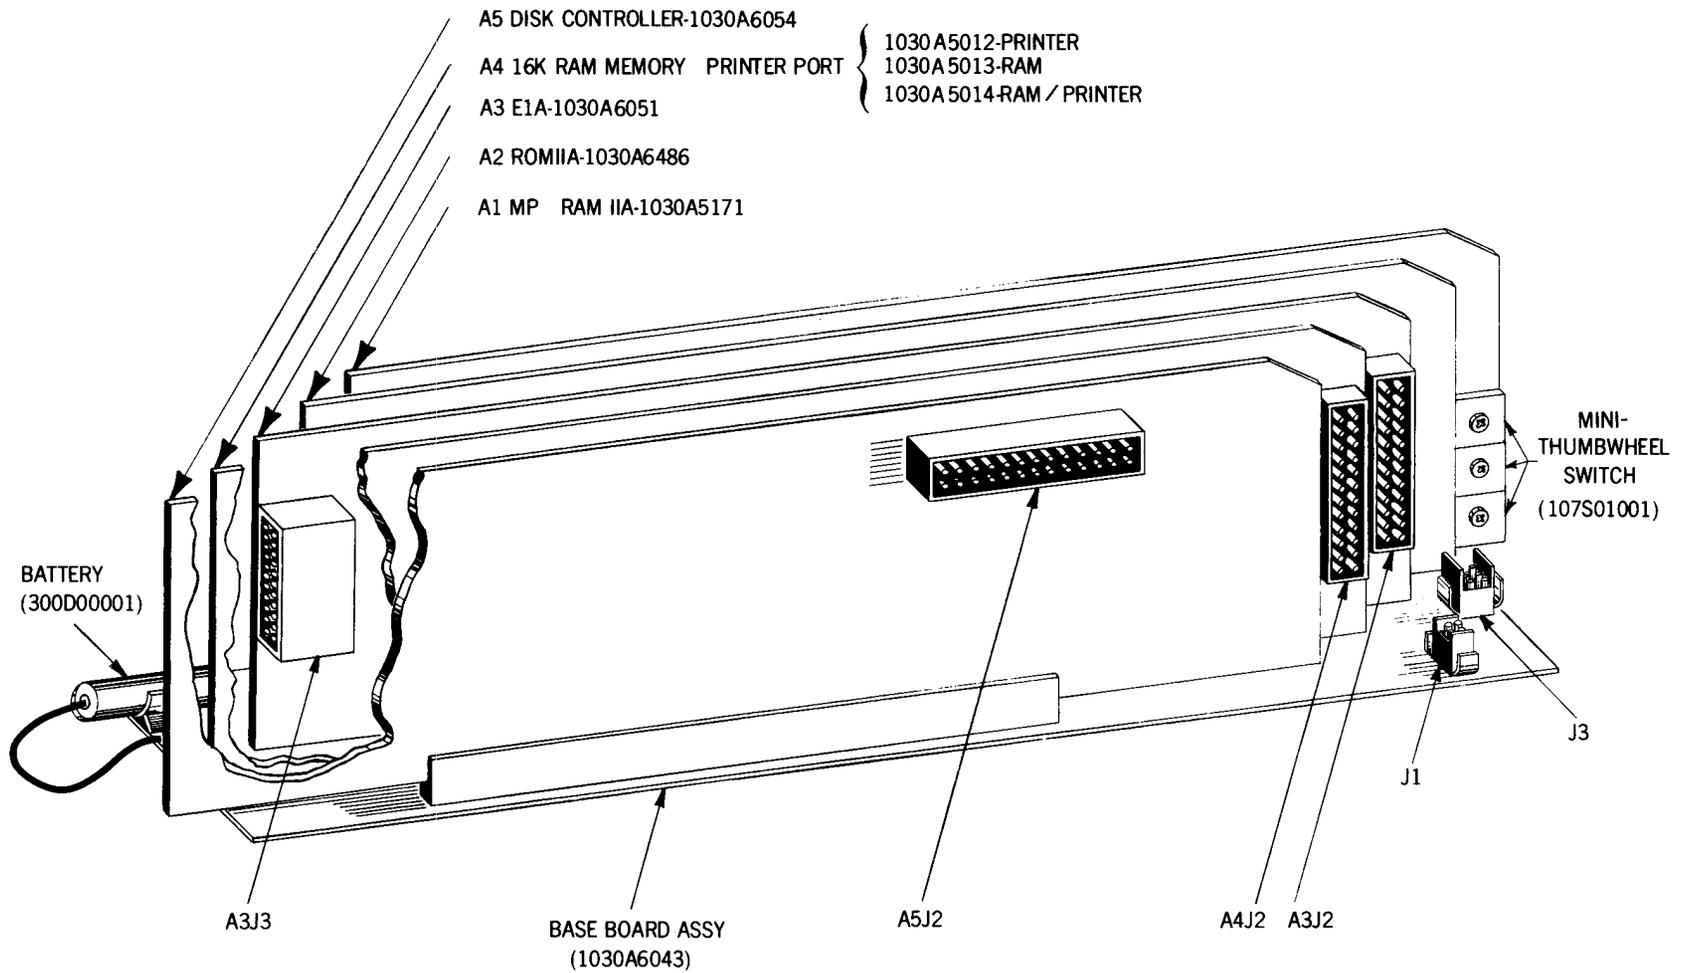

Fig. 9—System Boards
2.23 Fig. 9 shows the base board assembly and board slot assignments for the four logic boards and the optional fifth board.
2.29 The battery is attached to the base board assembly (Fig. 9). Perform the following steps to remove/replace the battery.